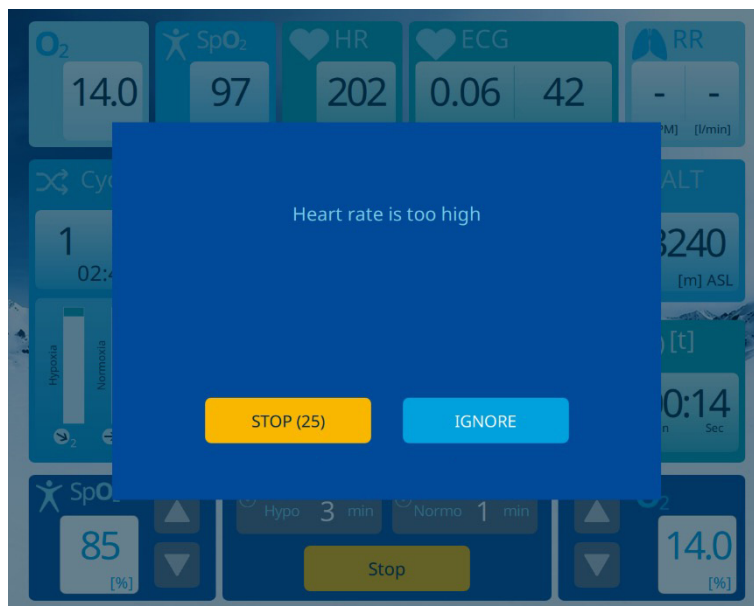

Figure 18 – “Heart rate is too high” message
- “Heart rate is too high” (Figure 18),